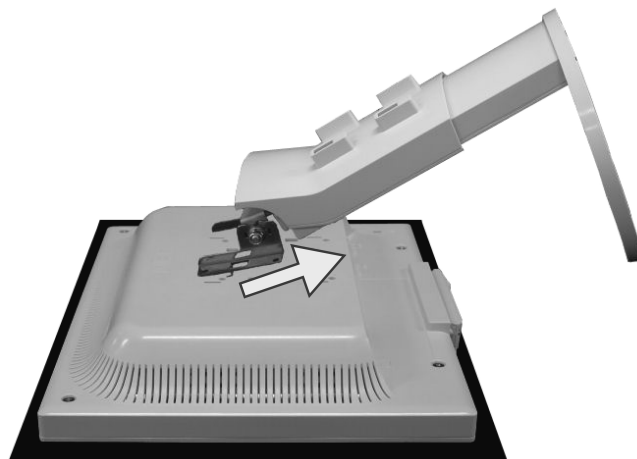

Figure S.5
7. Lift up the stand to unlatch the lower hooks and remove the stand (**Figure S.5**).